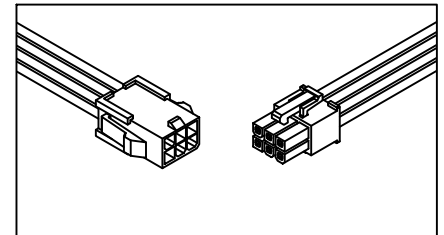

Fig. 7. Harness split
4. Aim (4) housing aligners to adjacent housing grooves. Draw housings together. Tight joiner screws with Allen key. Make sure housings are fully connected without any gaps. Connect segment harnesses (see Fig. 7).